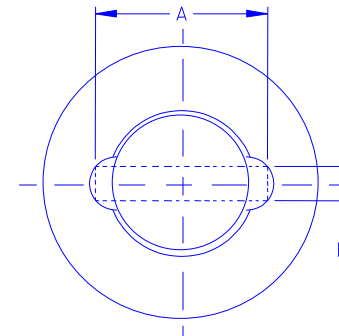

Figure 3: Retainer Removal Tool
- **One Piece only** The next step is to remove the retainer from the valve body. Properly secure the valve before attempting to remove the retainer. See figure 3 for dimensions to be used in fabricating a retainer removal tool using a flat piece of steel.